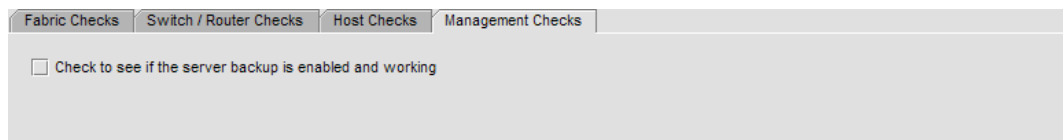

FIGURE 441 Add Policy Monitor dialog box, Management Checks tab
9. To set policy monitors for the Management application (Figure 441), complete the following steps.